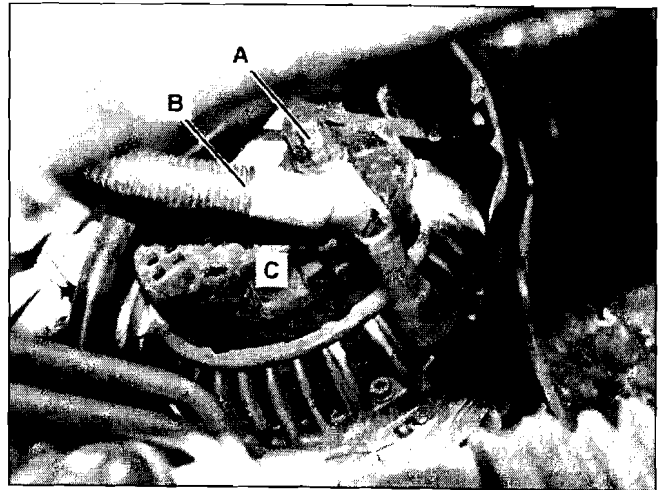

Figure 7
4. Remove cap (A, Figure 7) and disconnect starter wiring harness (B) from alternator (C).